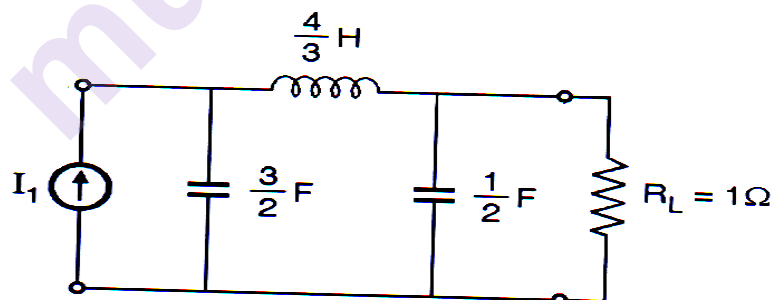

Figure 1
- c) Normalized third order Low pass filter is shown below in Fig.1 [4]